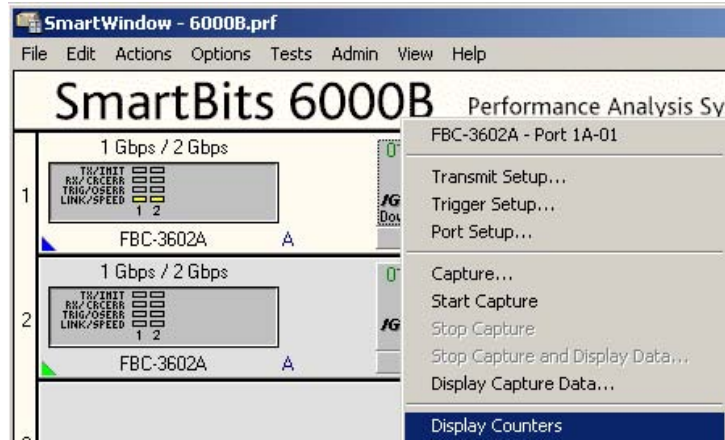
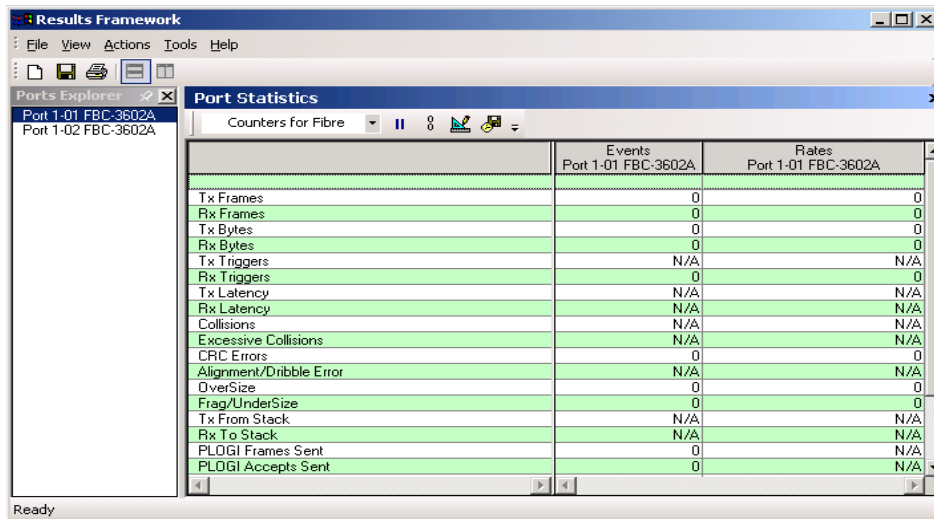

Figure 13-21. Display Counters
Figure 13-22. SmartCounters Results Framework
- To view statistics on the receiving port 1A-02, click the port button, then choose **Display Counters** from the menu. This opens the *Results Framework* window. (See *Figure 13-21* and *Figure 13-22*.)